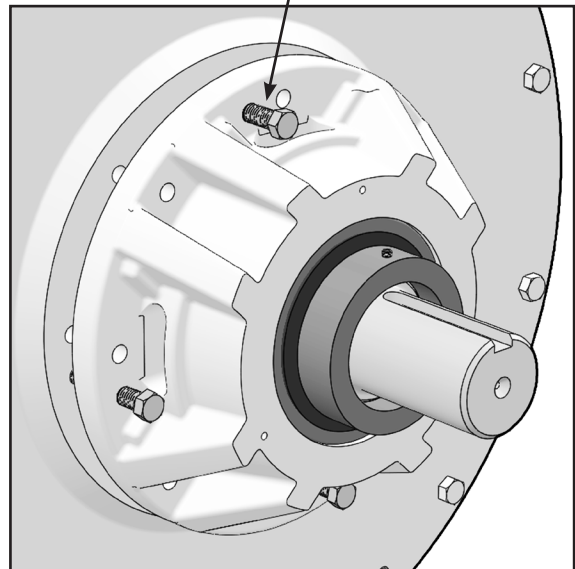

FIGURE 11
10. Alternately tighten opposing jack bolts 1/4 turn at a time until cartridge can be pulled from endplate (Figure 11). Properly dispose of bearing cartridge.